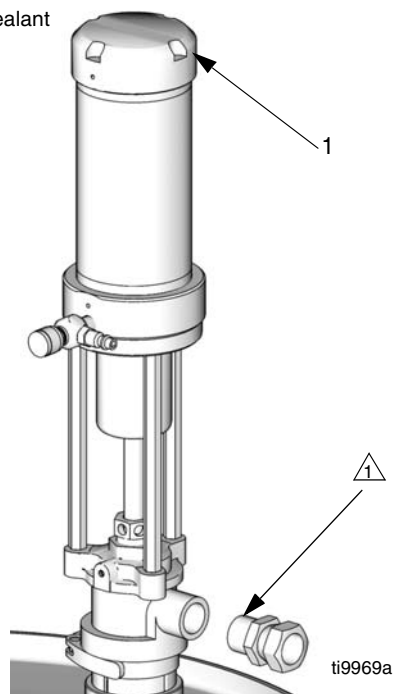

FIG. 5
2. Apply thread sealant to the male outlet fitting (not supplied) and insert into the outlet port. See FIG. 5.
3. Use labels (70) provided to identify the appropriate pump for your material. See FIG. 5.